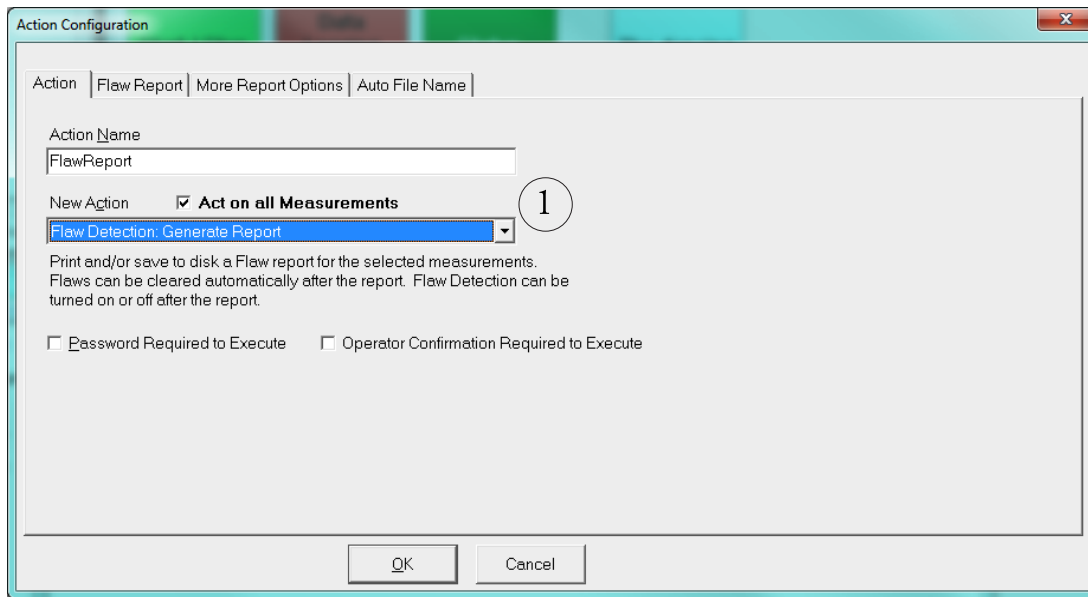

Figure 36. Generate Flaw Report.
The Measurement Log Configuration panel opens with the Measurements tab selected (Figure 36).
- 1.1 From the list of available fields, select Digital In (*Part 1 in Figure 36*).
- 1.2 From the Log one record every ____ drop-down menu, select Log Record Action (*Part 2 in Figure 36*).
- 2 Select the Configuration Name tab (*Part 3 in Figure 36*).
- 2.1 In the box for configuration name, enter the Digital In (*Part 4 in Figure 36*).